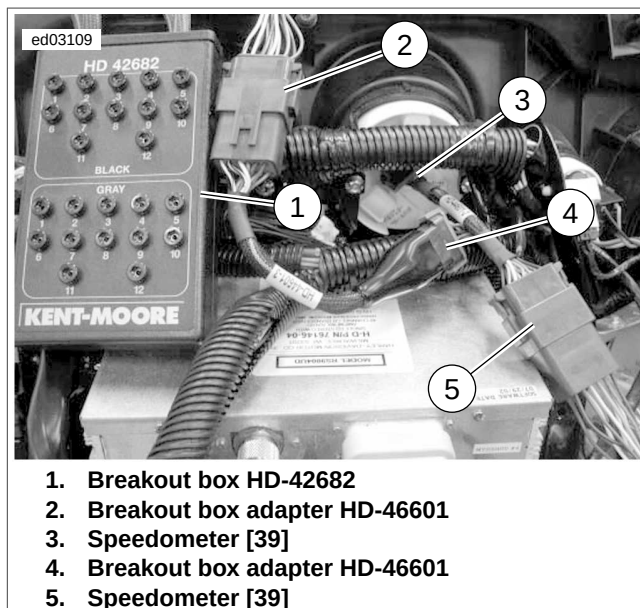

Figure 1-33. Breakout Box Connection
2. See Figure 1-33. Press latch and disconnect speedometer [39B].